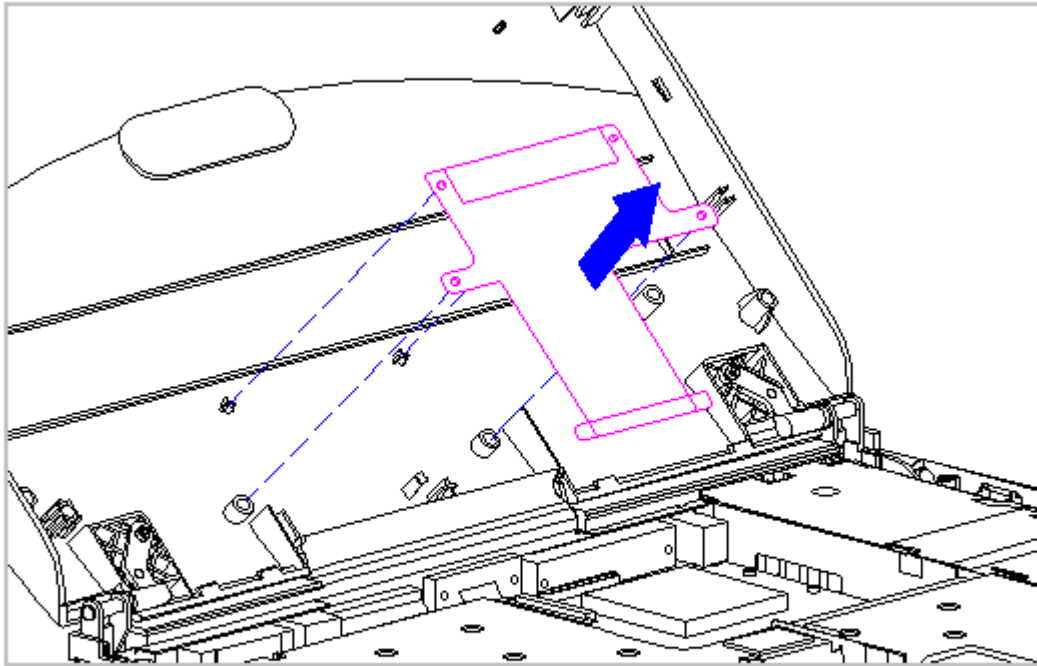

Figure 3-149. Removing the Display Ground Cable from the Display Enclosure (Models 420 and 430)
17. Lift the display ground cable out of the display enclosure (Figure 3-149).